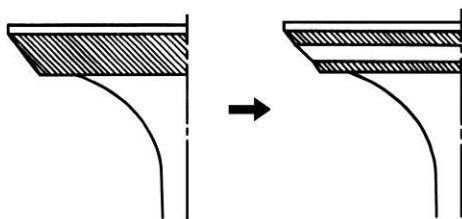

Figure 4-24: Valve Face Marking Examples
- See Figure 4-24. Verify the width of the finished seat is within specification.